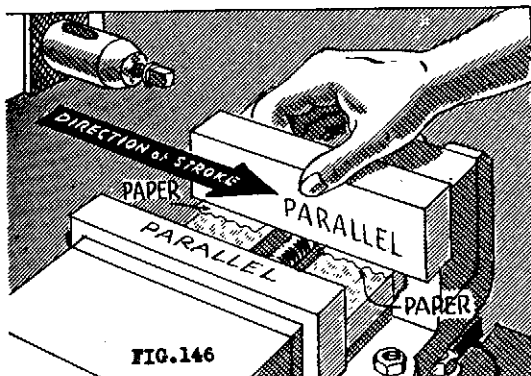

FIG. 146
6. Select two test parallels high enough to project above the top of the vise jaws and long enough to extend two or three inches beyond the width of the vise (Fig. 146).
8. Arrange the parallels against the face of the vise jaws so that they both project evenly beyond the sides of the vise. Some mechanics prefer to place a piece of tissue paper under the ends of each parallel to insure good contact and to prevent slipping (Fig. 146).